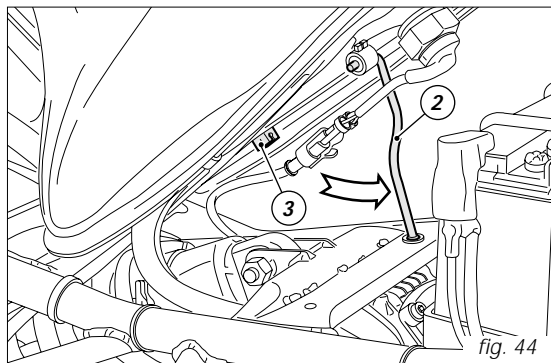

fig. 44
Lift the tank and unhook the service rod (2, fig. 44) from its retainer (3).